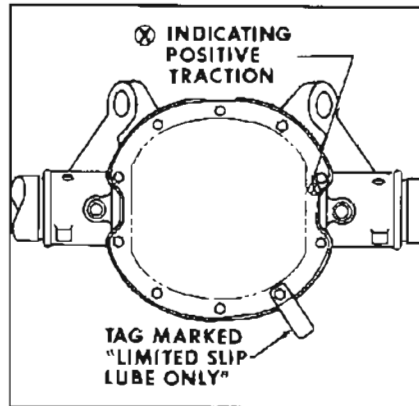

Figure 1-7—Differential Filler Plug (Positive Traction Shown)
filler plug opening to 1/4" below by adding SAE 90 Multi-Purpose Gear Lubricant (MIL-IL-2105-B). See Figure 1-7. When car is operated in temperatures continuously below -10°F., use SAE 80 Multi-Purpose Gear Lubricant.
7. Positive Traction Differential Rear Axle. Identified by embossed tag attached to the axle cover lower bolt stating "Use limited slip differential lube only." Check lubrication level after allowing time for lubricant to settle. Clean the surrounding area before removing filler plug. Level should be maintained at filler plug opening to 1/4" below by adding lubricant conforming to Buick Specification #723 only, as specified in paragraph 1-9. See Figure 1-7.